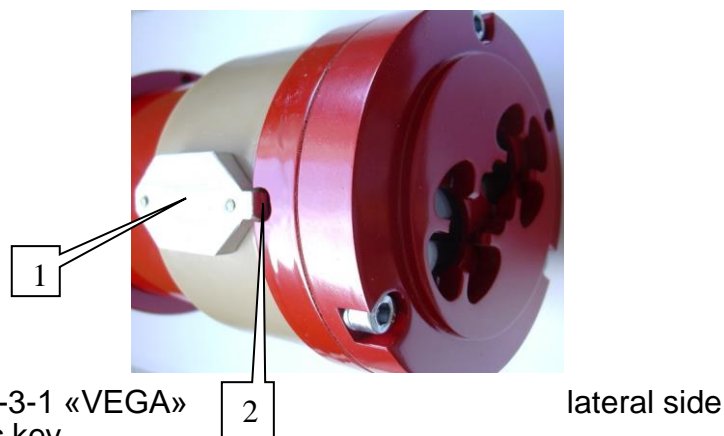

Figure 12 – FD 329/330-3-1 «VEGA» where, 1 –Magnetic key
If it is necessary that the output signal does not contain an alarm signal, then a magnetic bracelet must be put on the FD 329/330-3-1 «VEGA» (Figure 12). In this case FD 329/330-3-1 «VEGA» actuation is controlled only visually by means of LED indicators, which should glow constantly at «FIRE» signal. If the detector does not pass the test successfully, the procedures described in the «Troubleshooting» section must be followed.
- put the magnet to the recess on the detector (see figure 12) (a click will be heard),